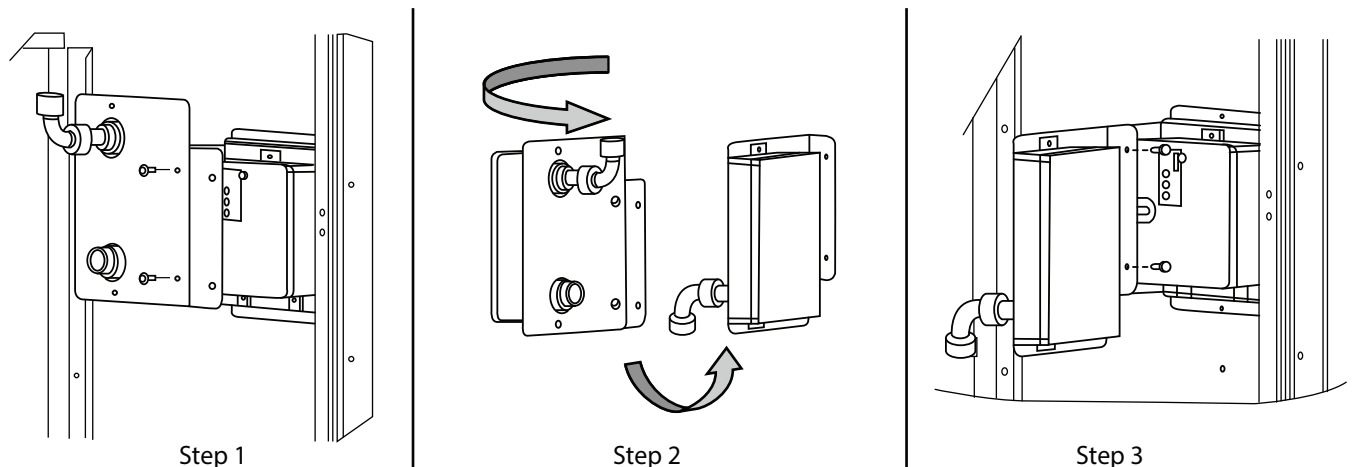

Fig. 94 — Completing Installation of Return Air Smoke Sensor
1. Unscrew the two screws holding the Return Air Smoke Detector assembly. See Fig. 94, Step 1. Save the screws.
2. Turn the assembly 90 and then rotate end to end. Make sure that the elbow fitting is pointing down. See Fig. 94, Step 2.
3. Screw the sensor and detector plate into its operating position using screws from Step 1. See Fig. 94, Step 3.